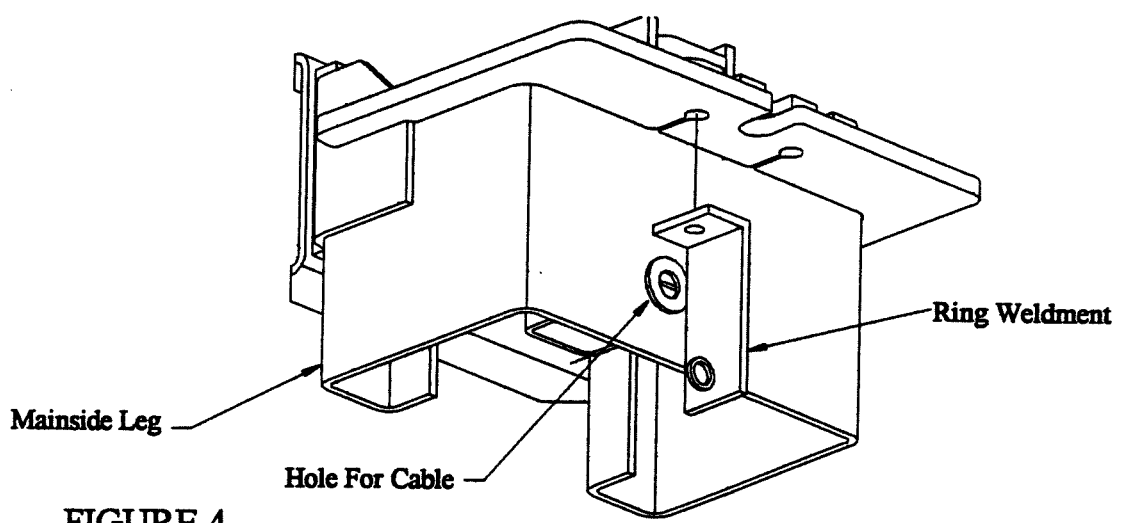

FIGURE 4
5. With the mainside leg on the ground, attach the ring weldment to the cylinder mount weldment using a 5/16 x 1 bolt, as shown in Figure 4.